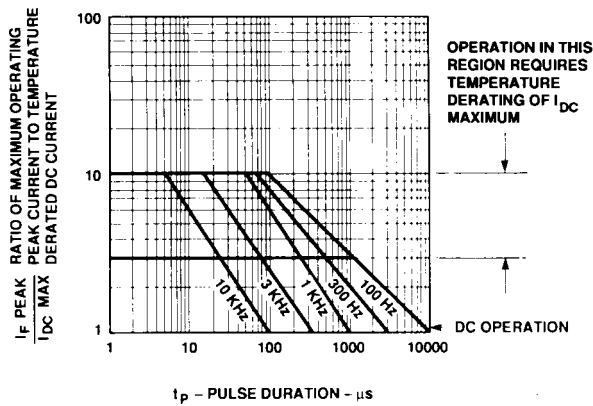

Figure 6. Maximum Tolerable Peak Current vs. Pulse Duration - HER Series.
3. See Figure 6 to establish pulsed conditions.